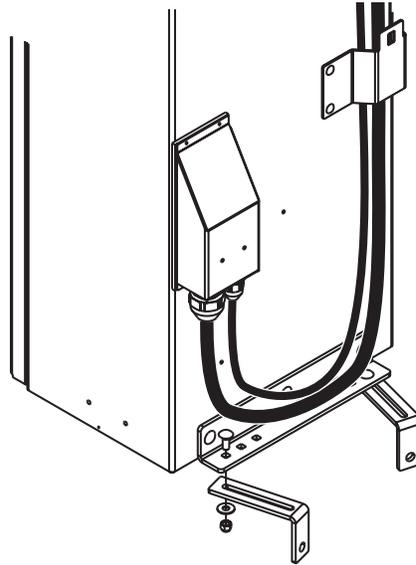

Figure 9 — Attach Angled Brackets to Cabinet
- Step 3** Attach the angled brackets to the mounting bracket at the bottom of the cabinet as shown (Figure 9). (You may need to attach the brackets in the alternate holes provided to compensate for poles that are not straight.)